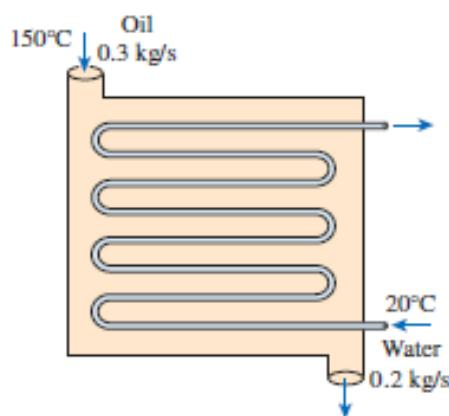

Figure 6
- b) Hot oil is to be cooled by water in a one-shell-pass and eight-tube-passes heat exchanger (Figure 6). The tubes are thin-walled and are made of copper with an internal diameter of 1.4 cm. The length of each tube pass in the heat exchanger is 5 m, and the over-all heat transfer coefficient is  $310 \text{ W/m}^2 \cdot \text{K}$ . Water flows through the tubes at a rate of 0.2 kg/s and the oil through the shell at a rate of 0.3 kg/s. The water and the oil enter at temperatures of  $20^\circ\text{C}$  and  $150^\circ\text{C}$ , respectively. Determine the rate of heat transfer in the heat exchanger and the outlet temperatures of the water and the oil. The specific heats of water and oil to be 4.18 and  $2.13 \text{ kJ/kg} \cdot {}^\circ\text{C}$ , respectively.